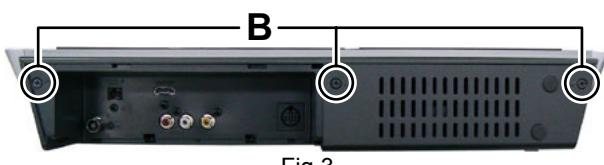

Fig.3
- (3) Remove the three screws **B** attaching the Top cabinet. (See Fig.3)